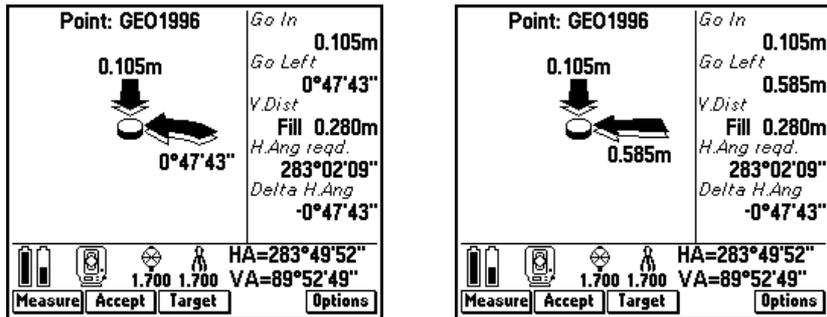

Figure 4.11 Graphical display screen – measurement made, instrument off line
12. Press **Measure** again. If the instrument has turned off line, the two outline arrows disappear and a solid one appears, as shown in Figure 4.11.